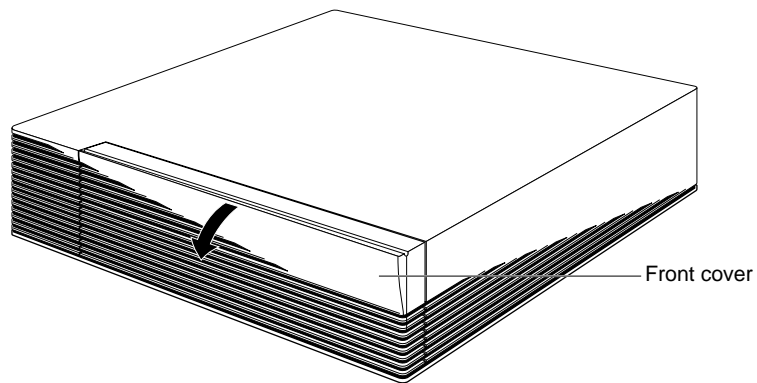

Figure 2-2 Removing the Front Cover
- Open the front cover by snapping it away from the top edge of the chassis and tipping it down, as shown in Figure 2-2.